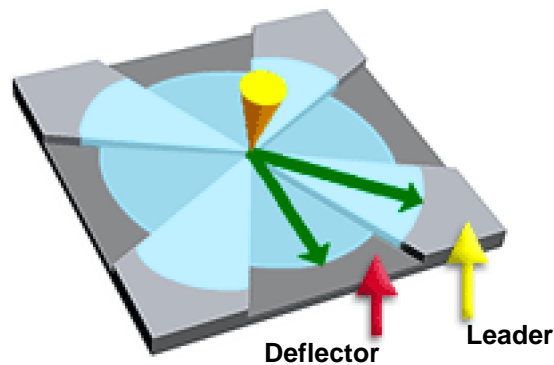
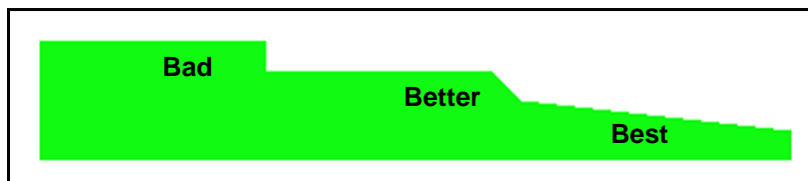
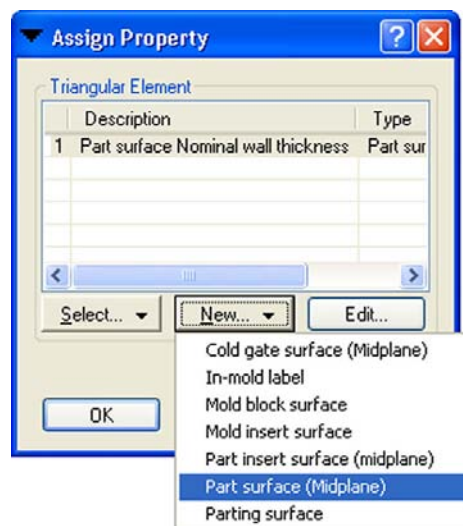

Figure 486: Flow leaders and flow deflectors in a square plate part
Figure 487: Wall thickness transitions
Figure 489: Assign property dialog
- A local increase in thickness from the nominal wall of the part, as shown in Figure 486. Material flows more easily in the thicker wall so the material is lead in the thicker area.
- A local decrease in wall thickness from the nominal wall of the part, as shown in Figure 486. Because the wall is thinner, material hesitates slightly and has preferential flow down the nominal wall or some thicker area.
A flow leader or deflector should have a gradual change in thickness. In the plate shown in Figure 486, the thickness changes are abrupt to show flow leaders clearly. In real parts, the best transition is a constantly changing wall, shown in Figure 487. In the past, to lead the flow in the part a deep narrow groove was machined into the part. This is a poor practice as it creates more of a river effect and may be difficult to pack the part to eliminate sink marks caused by the deep groove.
When you are simulating flow leaders with a midplane model, it is quite easy to change the thickness by selecting the elements that make the flow leader and create a new part surface property with the new thickness, as shown in Figure 489. A midplane analysis can really only calculate the step transition (the “bad” transition shown in Figure 487). This influences the results slightly. Even though the transition can only be a step in the analysis, the tool should at very least have a chamfer at the thickness transition.